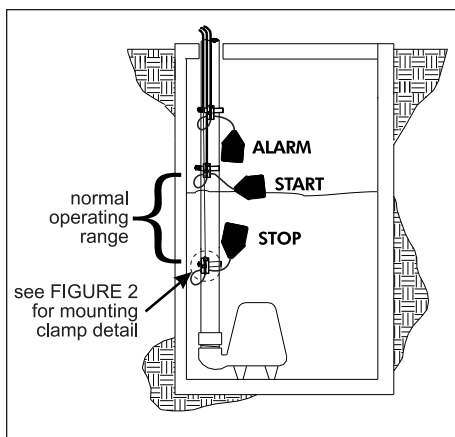

FIGURE 1
2. Determine your normal operating level, as illustrated in **Figures 1 & 2.**